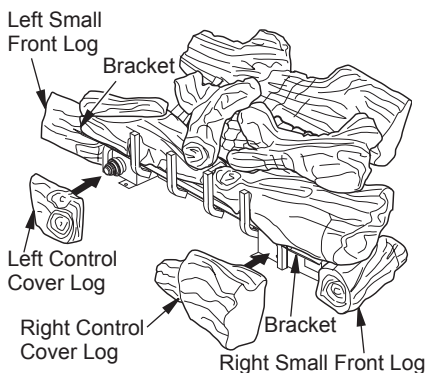

Figure 25 - Installing LBG36-SM Model Control Cover Logs
7. For LTF36-SM, the front right and left logs are longer and are supported with brackets on each end (see Figure 25). Place left and right small front logs under left bracket and beside right bracket.